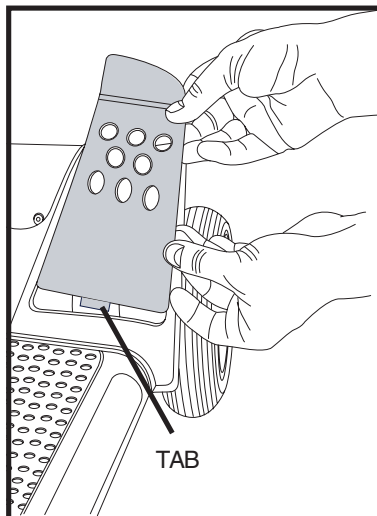

Figure 10. Front Fender Panel
2. Push through the hole to separate the piece from the Travel Scooter. See figures 10, 11, and 12.
NOTE: When installing the front fender panel, make sure the tab at the bottom of the panel is inserted into the tab opening before securing the panel. See figure 10.